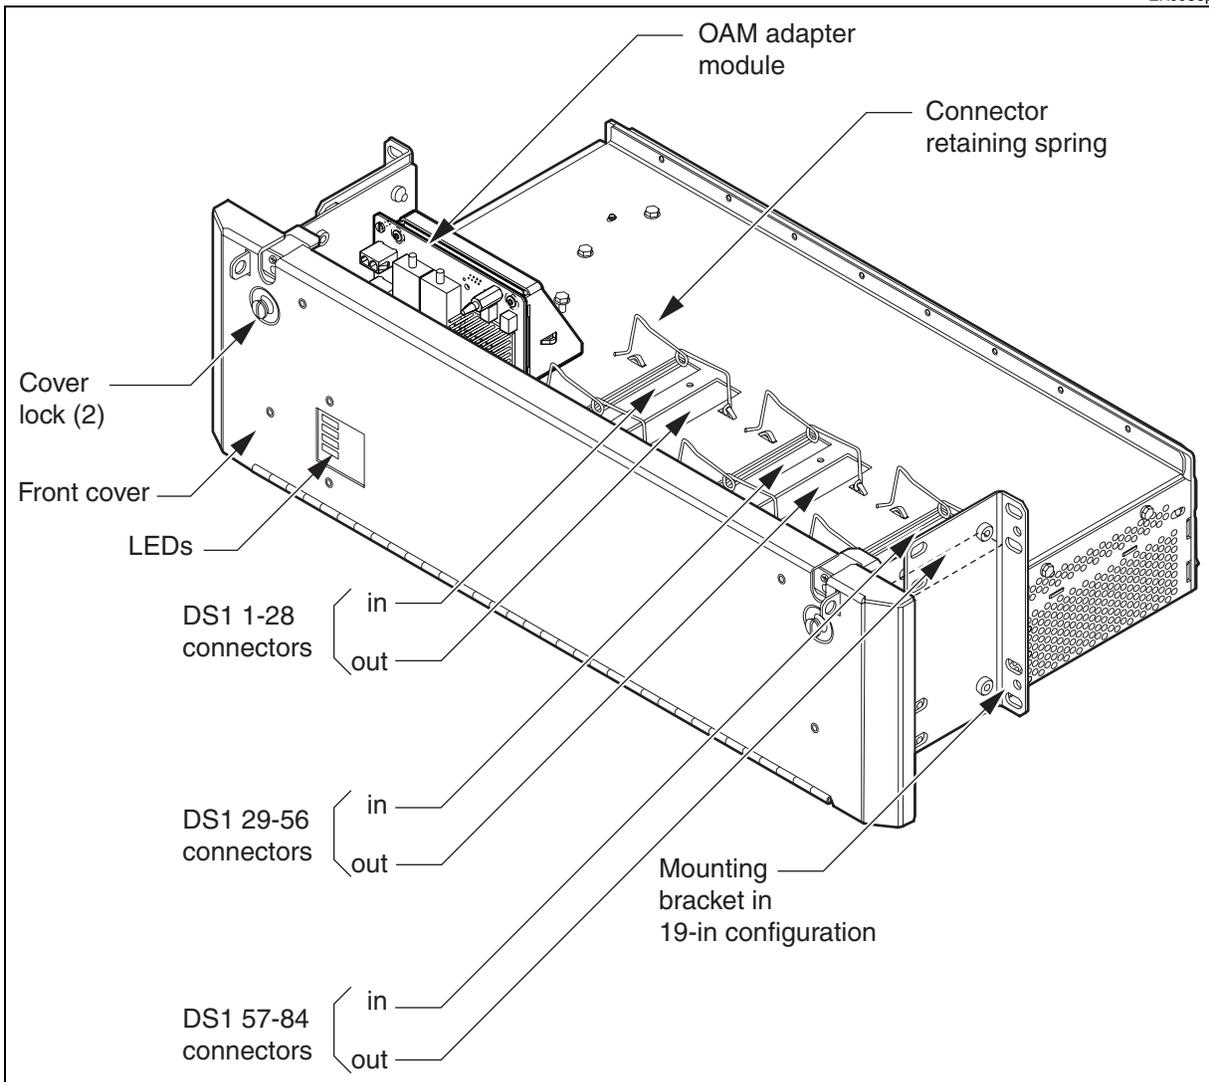

Figure 3-119
- 11 Connect the DSM ground cable. See Figure 3-119 on page 3-222.